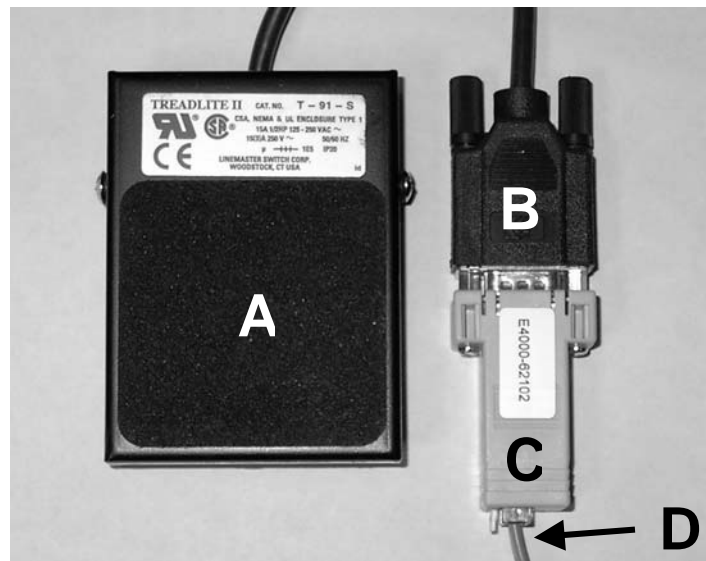

Figure 1
1. Connect the RS-232 serial connector (B) integrated into the 44902-60000 footswitch assembly (A) to the E4000-62102 adapter (C) shown in Figure 1.
2. Plug one end of the 8120-6713 RJ-11 Cable (D) into the E4000-62102 adapter (C) shown in Figure 1.